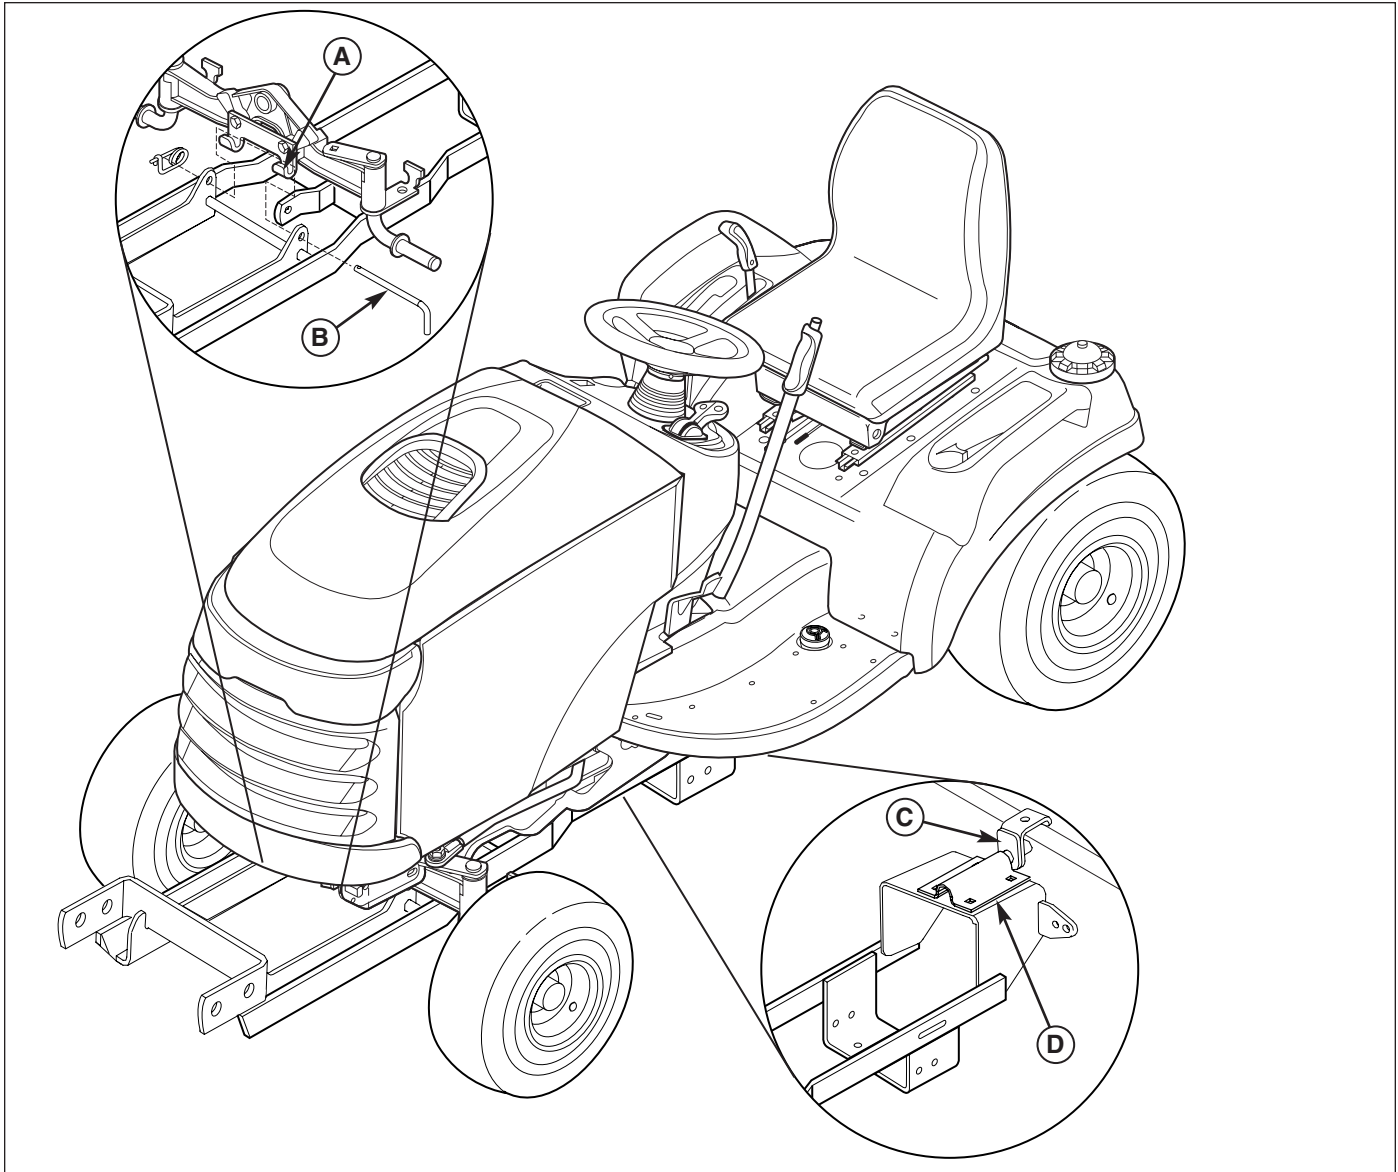

Figure 8. Install Hitch
2. Raise the rear of the hitch and place the hook (C, Figure 8) over the lift shaft.
3. Connect the front of the hitch to the tractor J-hooks (A) using the hitch rod (B) and a safety clip.
4. Push the clamp plate (D) backwards until the hook (C) is snug against the lift shaft. Tighten the clamp plate hardware.